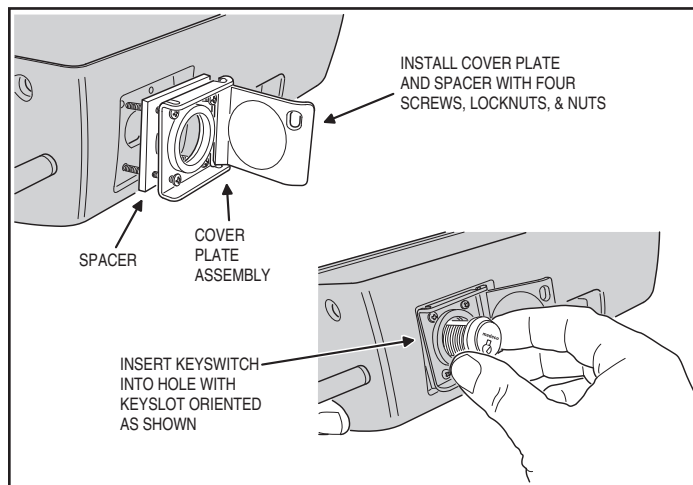
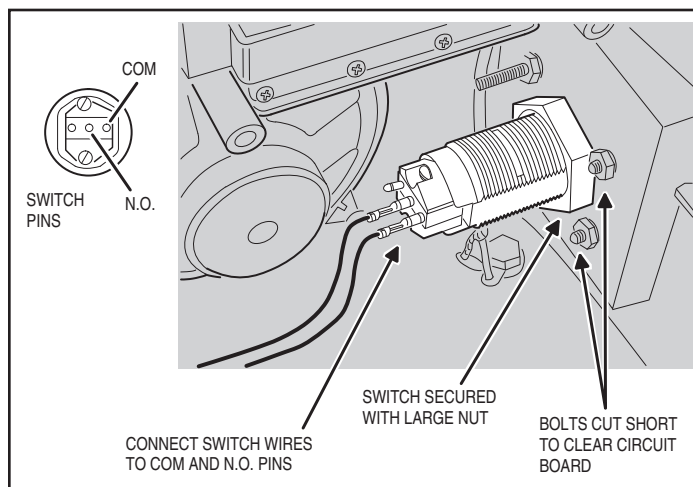

Figure 20. Installing the Keyswitch
Figure 21. Keyswitch Wire Connections
3. Hold the lock cover and plastic spacer in place on the RE-1 case. Secure the assembly with four screws, lock washers, and nuts. Slide the keyswitch into the hole, oriented as shown (see Figure 20). Secure the keyswitch with the large switch nut. Use bolt cutters to trim the two screws closest to the case edge so they will clear the circuit board (see Figure 21).
4. Plug the two keyswitch snap-on wire leads (supplied with the switch) onto the keyswitch **COM** and **N.O.** pins (see Figure 21).